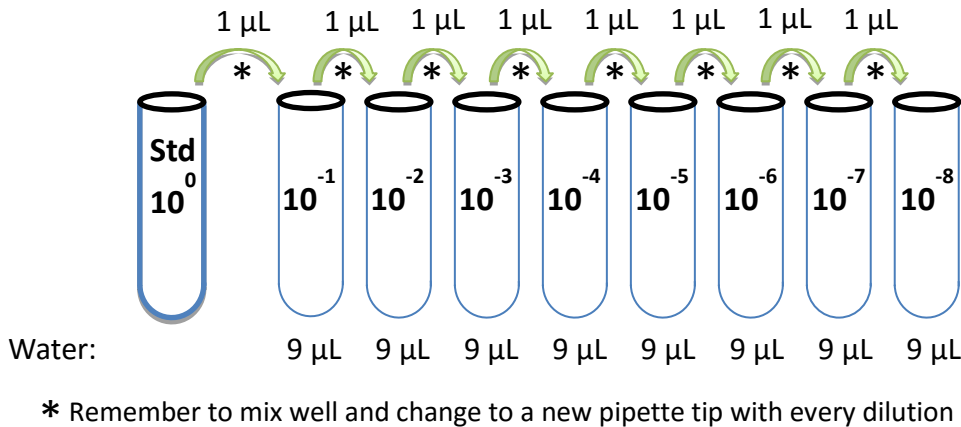

Figure 1. Procedure for dilution of AAV standard into serial dilutions ranging from 10^{-1} to 10^{-8}
3. For each run, we recommend preparing a fresh dilution series using the provided AAV standard and nuclease free water. Make 10-fold serial dilutions ranging from 1 in 10 (10^{-1}) to 1 in 100000000 (10^{-8}) to use as template for the generation of a standard curve (see Figure 1 below). Using the appropriate micropipette, add 1 μL of AAV Standard to 9 μL of nuclease free water to make a 10 fold dilution of AAV Standard. Mix well by pipetting up and down repeatedly or by flicking tube. Obtain a new pipette tip and add 1 μL of the 10 fold dilution to the next tube containing 9 μL of nuclease free water. Repeat this process until serial dilutions of up to eight 10-fold dilutions (up to 1×10^{-8}) have been made. The standard curve is most linear over a range of 10^{-1} to 10^{-8} , ranging from an approximate copy number of 2×10^3 to 2×10^{10} . Set up standard qPCR reactions as shown in Table 5, by adding 1 μL of diluted standard to each reaction.